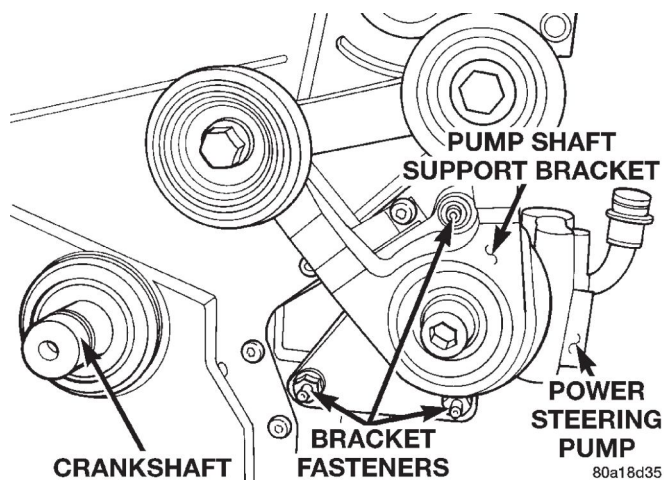

Fig. 64 Pump Shaft Support Bracket
- (8) Remove pump shaft support bracket assembly (Fig. 64).